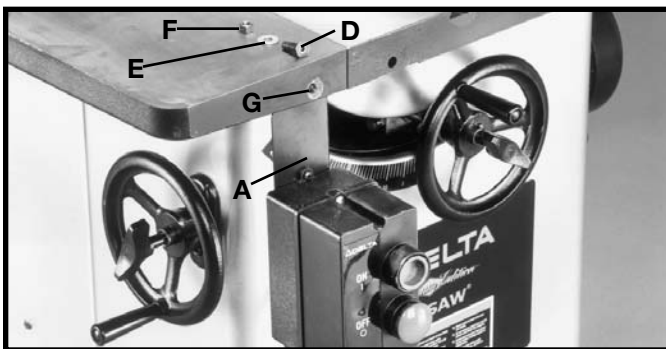

Fig. 10A
2. Loosely assemble switch and switch bracket (A) Fig. 10A, to the inside front lip of the left extension table with hex flat head screw (D), flat washer (E), and hex nut (F) through hole (G).